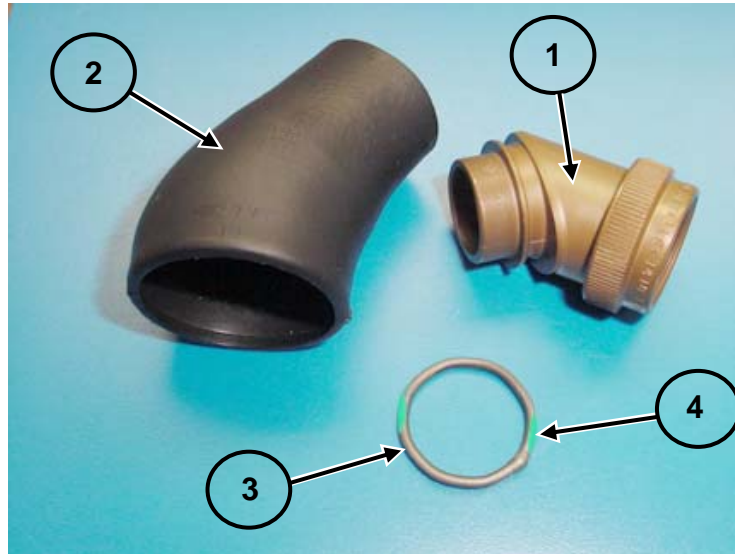

Figure 1. Raychem Spin Lock Backshell, Molded Boot, Tinel-Lock Ring
- The components for the Raychem spin lock adapter are provided in a plastic bag under a specific part number and appear similar to the components shown in Figure 1.